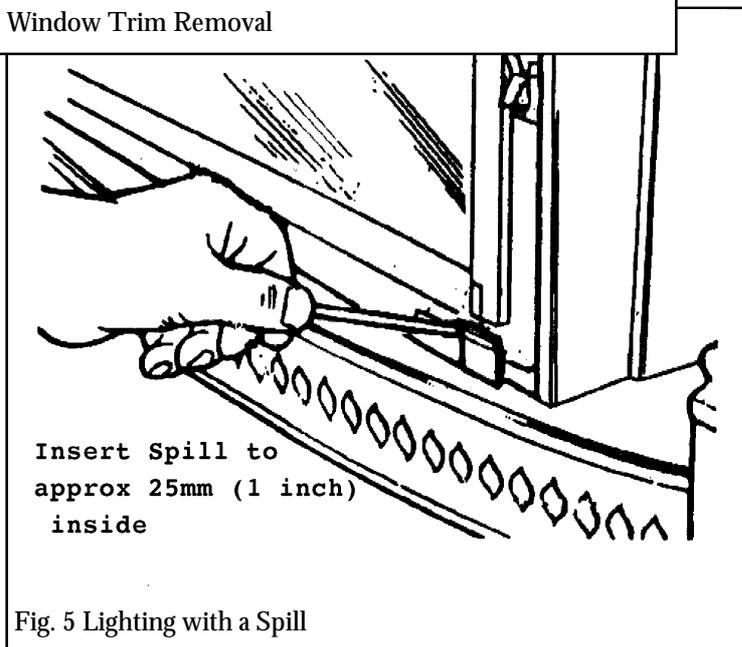

Fig. 5 Lighting with a Spill
2.7.2 Light the spill and insert through the opening in the black bar near the bottom right corner of the window. Insert the spill so that about 25mm (1 inch) of the spill is inside the black bar see figure 5.